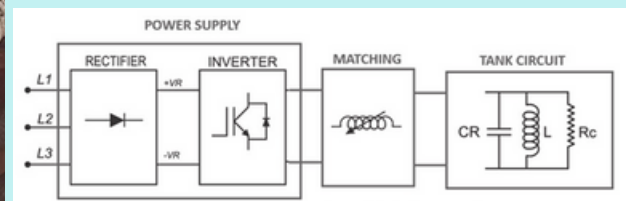

Figure 2. Simplified block diagram of induction heating unit
An induction hardening system typically includes a power supply, an impedance-matching circuit, and a tank circuit, Figure 2. When the parallel set of capacitors and inductors are used in a tank circuit, the capacitor and inductor become reservoirs of electrostatic and electromagnetic energy, respectively. The high current through the coil helps to have a good energy transfer from the induction coil to the workpiece (1).